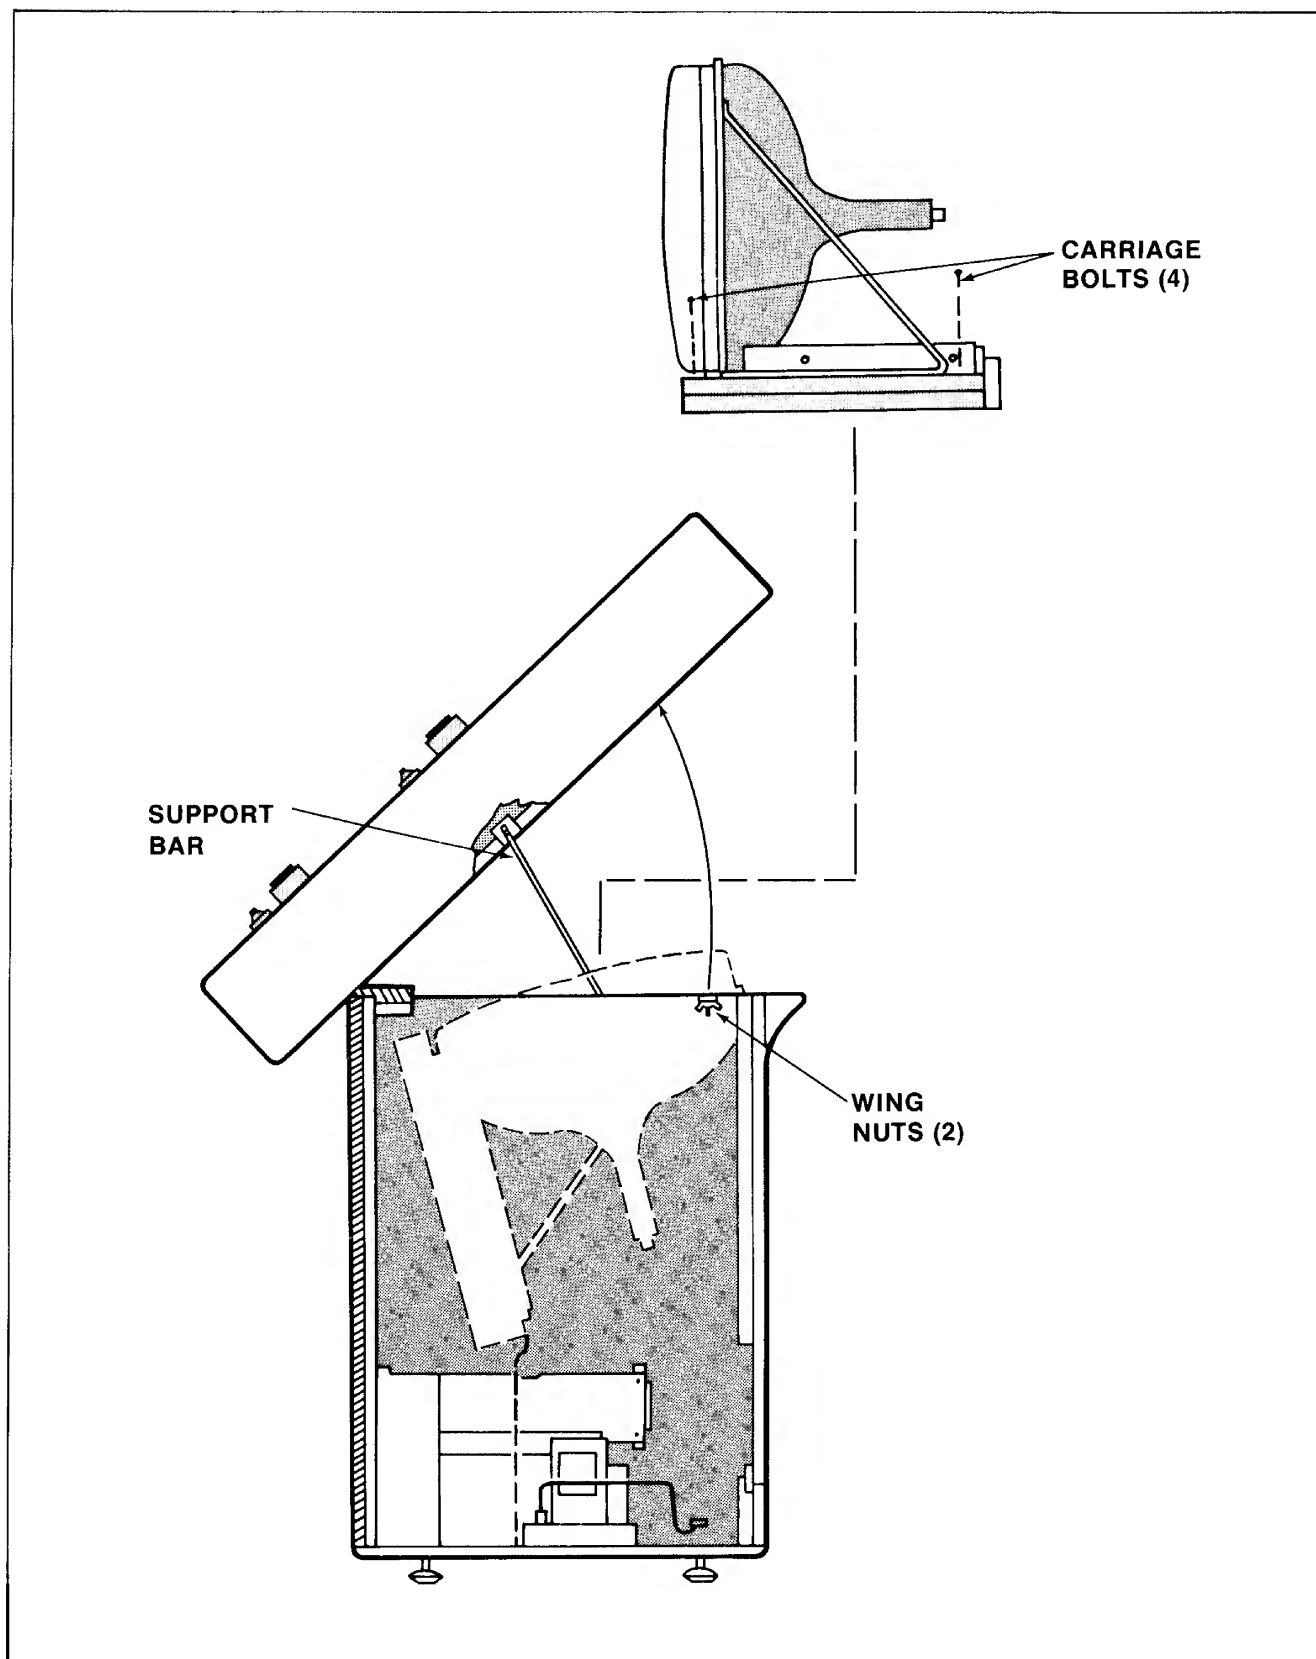

Figure 3-11 TV Monitor Removal
E. TV MONITOR REMOVAL **(See Figure 3-11)**
3. Starting from the back of the cabinet, raise the top assembly. The support bar should be used for safety while working inside the cabinet (see Figure 3-11).